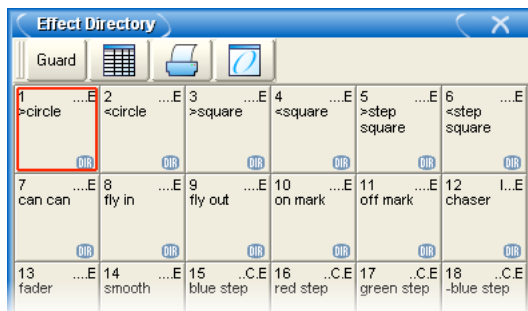

Figure 23.2. The Effect Directory
You can quickly apply effects to the current selection using predefined effects palettes in the Effect Directory; see *Figure 23.2, "The Effect Directory"*. Effects palettes for parameter functions not available in the current selection will be greyed out; for example the Iris Step palette is not available for Studio Color 575s as they do not have an iris parameter.
2. Open + Effect : the Effects Engine and Effect Directory will open; see *Figure 23.4, “The Effects Engine”* and *Figure 23.2, “The Effect Directory”*.